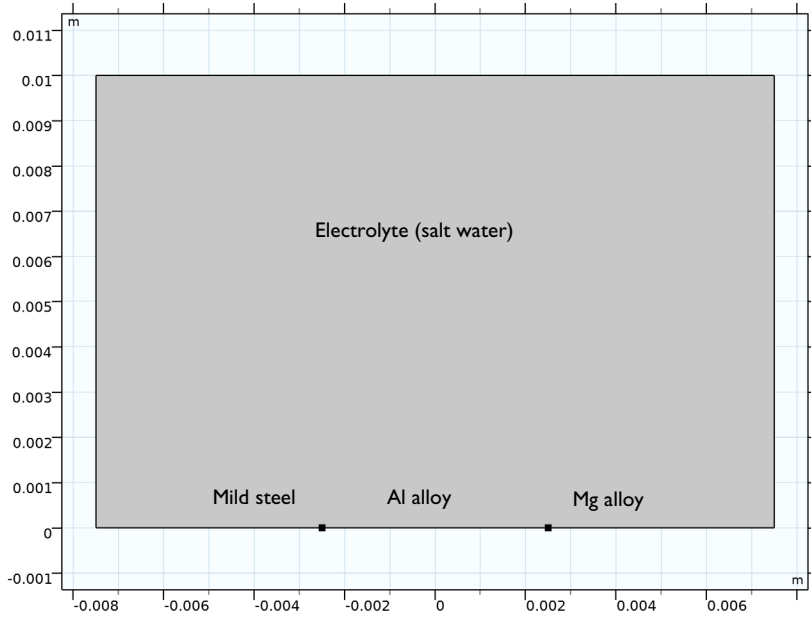

Figure 1: Model geometry consisting of Mg alloy, Al alloy and mild steel joined together and exposed to the electrolyte solution.
The model geometry considered in this example is shown in Figure 1 where Mg alloy, Al alloy and mild steel (MS), joined together and exposed to the electrolyte, are highlighted. The Al isolator thickness is varied to simulate its effect on galvanic corrosion mitigation.
The geometry should now look like Figure 1 in the documentation.